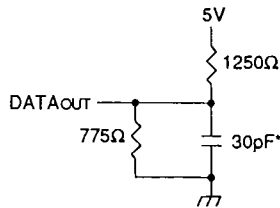

Figure 1. Output Load
Output Load	See Figures 1 & 2
1. Transition is measured ±500mV from low or high impedance voltage with load (Figures 1 and 2).
1. Transition is measured  $\pm 500\text{mV}$  from low or high impedance voltage with load (Figures 1 and 2).